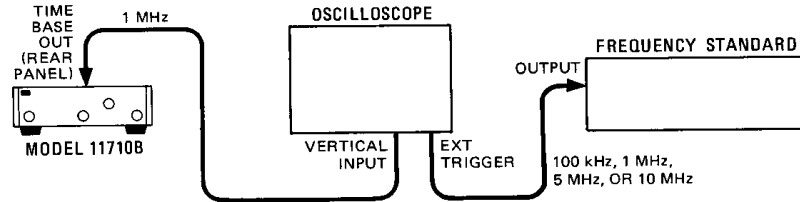

Figure 7. Local Oscillator Frequency Adjustment Test Setup
- b. Connect equipment as shown in Figure 7. Set oscilloscope to display 1 MHz TIME BASE OUT signal triggered externally from the frequency reference. Set horizontal scale for 0.1  $\mu$ s per division.